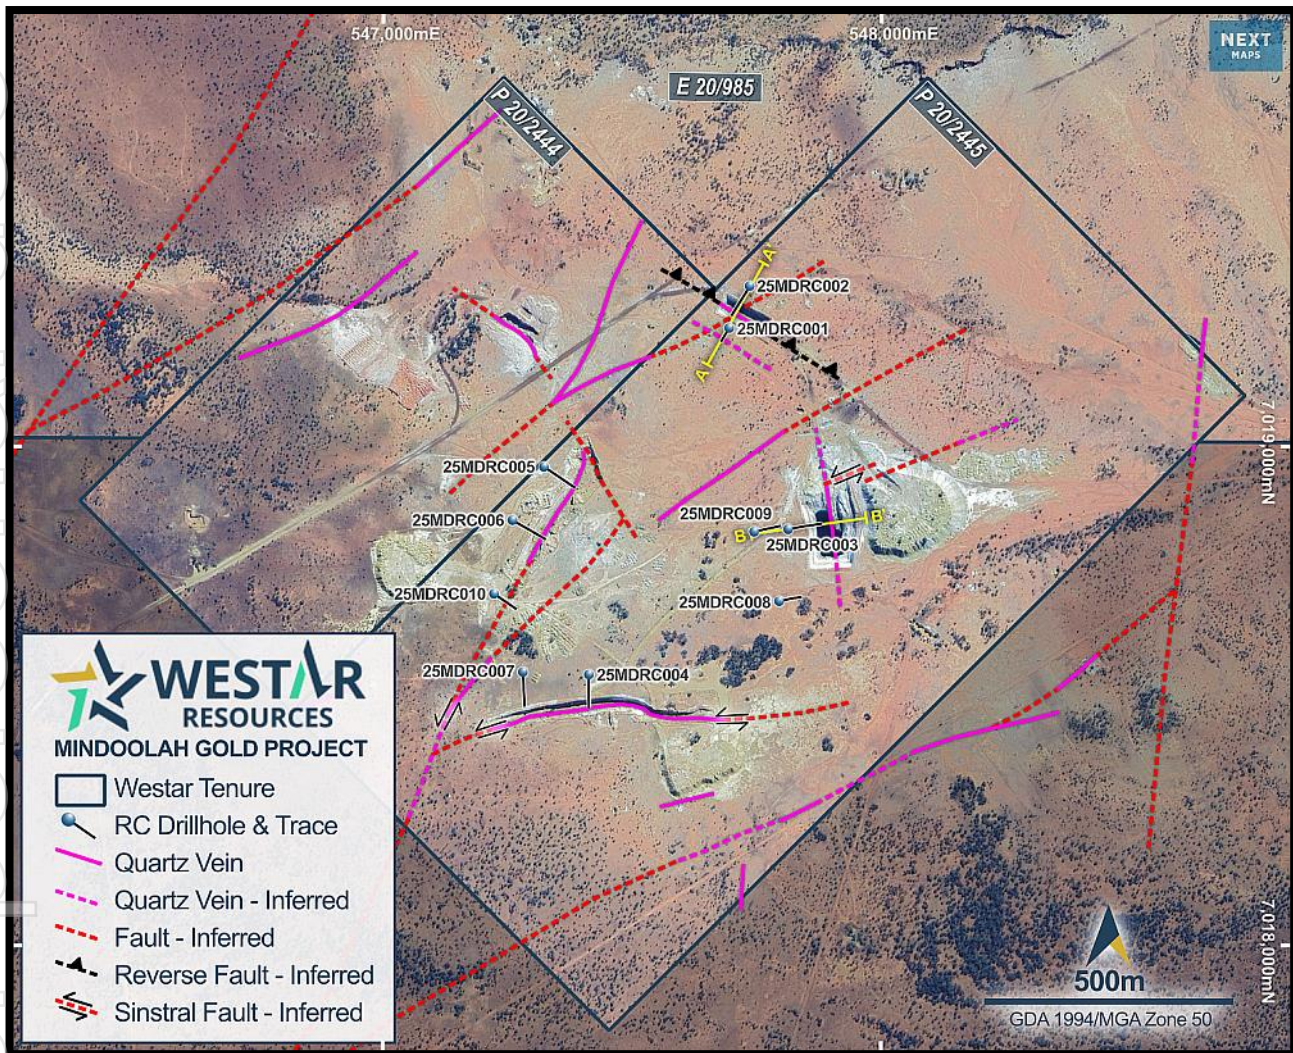

Figure 1. Mindoolah Mining Centre showing old pits, recent drill holes, and interpreted structures.
The project is centred on the Mindoolah Gold Mining Centre, an historic goldfield about 70km northwest of Cue, in WA’s Murchison region. The centre comprises a series of shafts from the early 1900s, and several open pits mined in the 1980s (Figure 1). The depth and along-strike potential of the mineralised quartz-vein system was never tested.
Five main open pits were mined at the centre, with the mineralised trends orientated in four different directions (Figure 1). Westar mapping suggests that the structure with the largest displacement was probably the northeast-trending fault that hosts the Mindoolah Main Reef; the interpreted offset of units in the pit indicates an apparent sinistral strike-slip sense of movement. Other likely sinistral strike-slip faults are evident in the Pride of Mindoolah pit and cutting through the Excelsior pit. The gold-bearing reef in the Bertrams pit is probably a reverse fault. The overall distribution of faults resembles contractional trailing horsetail splays off at least two northeast-trending master faults which extend for more than 3km to the southwest of the mining centre.
The drilling program completed in February 2025 (Figure 1) was designed to test the main gold-bearing structures and to do so about 100m down-dip of the reefs in the pits. Two holes were also drilled along strike from the pits to clarify if there was more upside along strike. The program would determine whether the structures had sufficient scale to support a profitable mining operation.
**Figure 2.** Sections through the Bertram’s pit (top) and the Excelsior pit (bottom) showing interpreted mineralised structures defined by Westar RC drilling. Refer to Figure 1 for plan view location of the Sections.